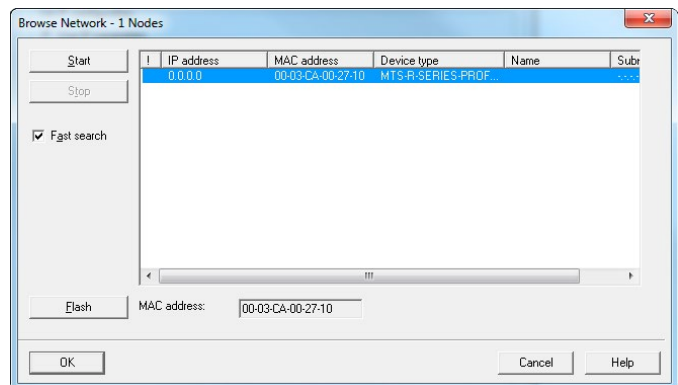

Fig. 48: List of available Profinet IO devices (source: Siemens)
2. Select a sensor from the list to which a name must be assigned. A sensor is identified by the type designation “MTS-R-SERIES-PROFINET” and a “MAC address prefix 00-03-CA”. Click “OK” to confirm your selection (Fig. 48).